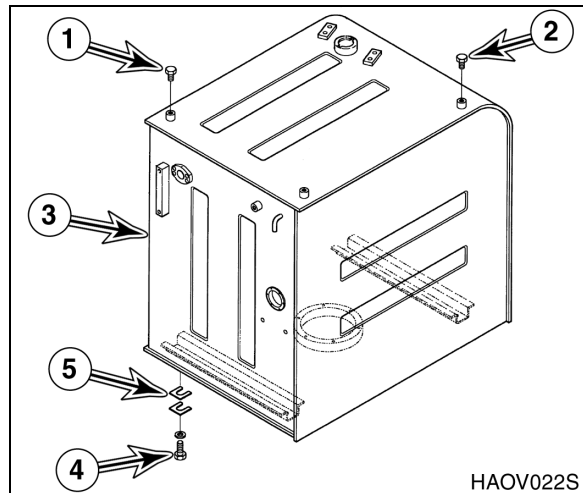

Figure 11
17. Install two 12 mm eye bolts in threaded holes at top surface of tank (1 and 2, Figure 11). Using a suitable lifting device, sling eye bolts.
18. Remove four bolts and washers (4, Figure 11) holding tank (3) to frame. Lift tank 25 mm (1") and make sure it is balanced. Make sure that there are no other electrical wires or hoses connected to tank. Completely remove tank after inspection.
19. Remove shims (5, Figure 11).